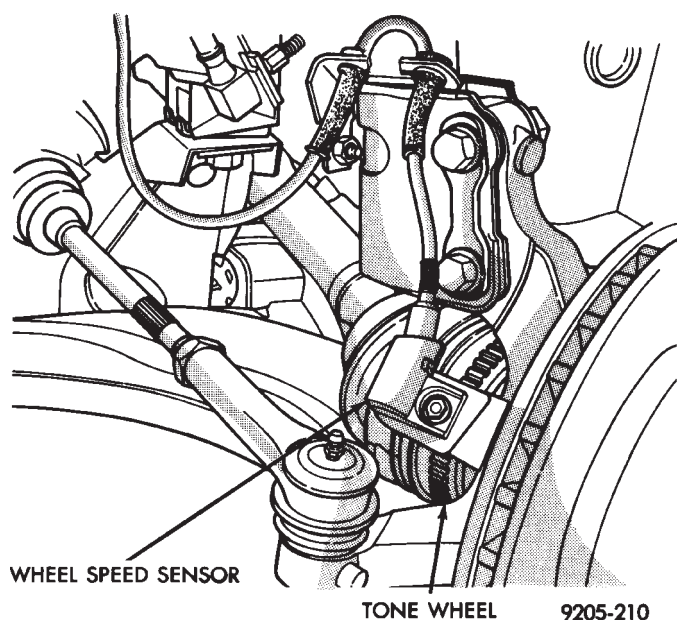

Fig. 12 Front Wheel Speed Sensor Routing
FRONT WHEEL SPEED SENSOR (FIG. 12)
(1) Raise vehicle and remove wheel and tire assembly.
(2) Remove screw from grommet retainer clip that holds the grommet into fender shield (Fig. 12).
(3) Remove the 2 screws that fasten the sensor routing tube to the frame rail.
(4) Carefully, pull sensor assembly grommet from fender shield.
(5) Unplug speed sensor connector from vehicle wiring harness.
(6) Remove the sensor assembly grommets from the retainer brackets.
(7) Remove sensor head screw.
(8) Carefully, remove sensor head from steering knuckle. If the sensor has seized, due to corrosion, **DO NOT USE PLIERS ON SENSOR HEAD.** Use a hammer and a punch and tap edge of sensor ear, rocking the sensor side to side until free.